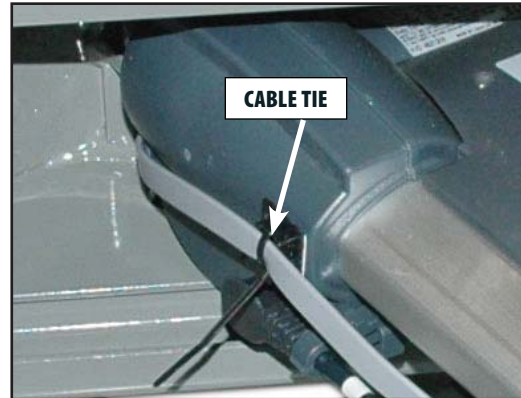

FIGURE 6.39
5. Using Diagonal Cutters, cut the Cable Tie holding the Control Box Power Harness to the back of the Actuator. Refer to **Figure 6.39**.